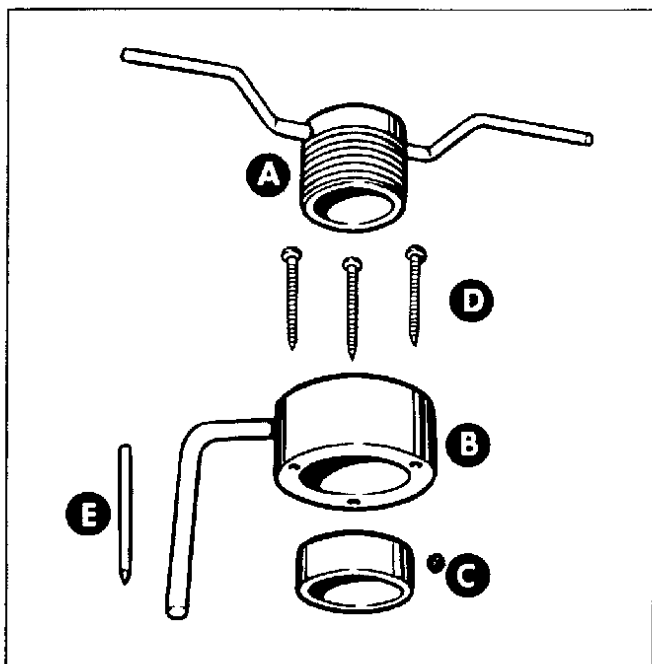

Figure 4D-1. Main Drive Gear Oil Seal Tool
Disassemble shifter cover parts 1 through 12 as described in "Disassembling Shifter Cover (Foot Shift)," see Fig. 4D-6. Time shifter notches as illustrated in Fig. 4D-8. Loosen screw (14, Fig. 4D-6) and rotate adapter plate (16) until timing notch (Fig. 4D-8) in adapter plate, located at bottom of shifter gear hole, lines up with notch between two shifter gear teeth. Make alignment exact, then tighten adapter plate bracket screw to lock in position. This adjustment can be made with shifter in any gear (not neutral).